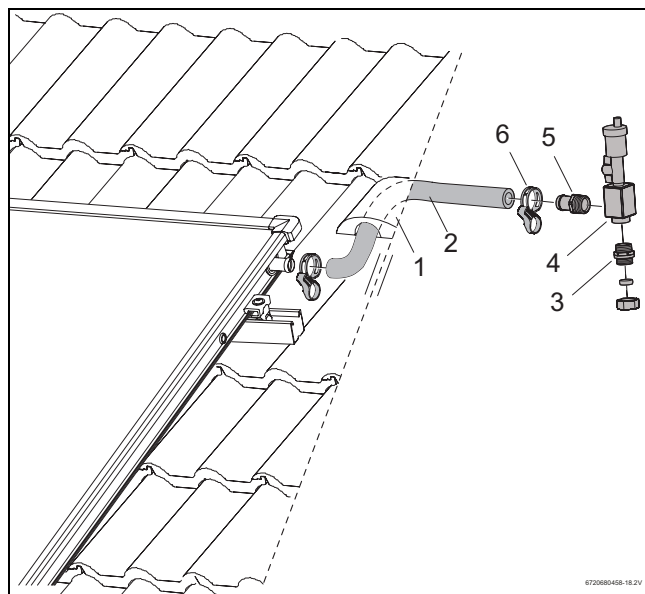

Fig. 53 Fitting the solar hose to the flow connection
- Push the long solar hose (1,000 mm, Fig. 53, [2]) to the flow connection of the collector array and fix in place with hose clip.
- Feed solar hose together with the sensor cable through the ventilation tile (Fig. 53, [1]) and through the roof insulation.
- Firmly screw R $\frac{3}{4}$ hose nozzle with O-ring (Fig. 53, [5]) and double threaded fitting with O-ring (Fig. 53, [3]) in the air pot (Fig. 53, [4]).
- Push the hose end as far as it can go into the solar hose and fix with hose clip (Fig. 53, [6]).
- Connect the header pipe to the compression fitting (Fig. 53, [3]).